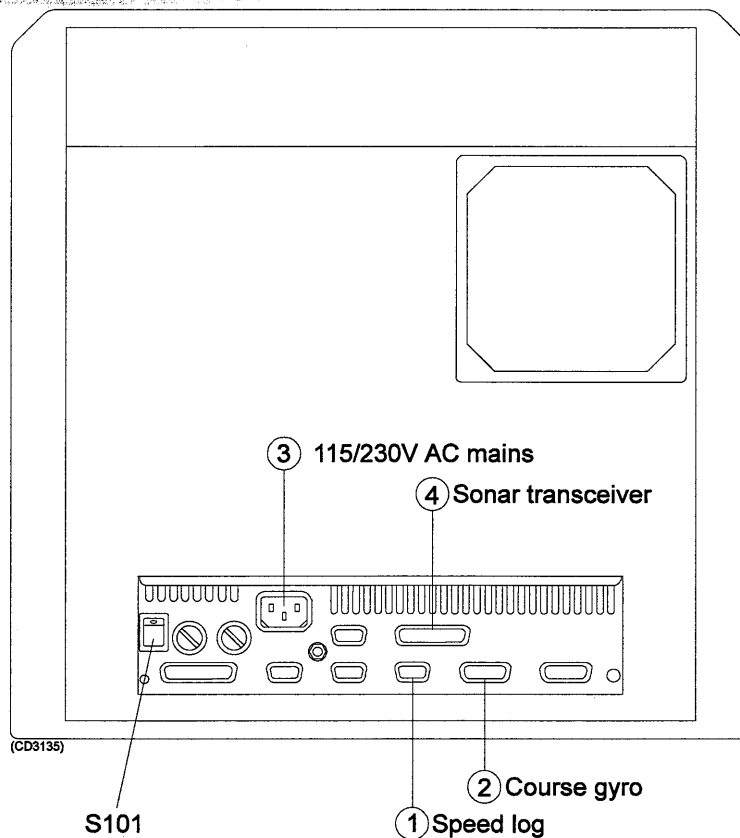
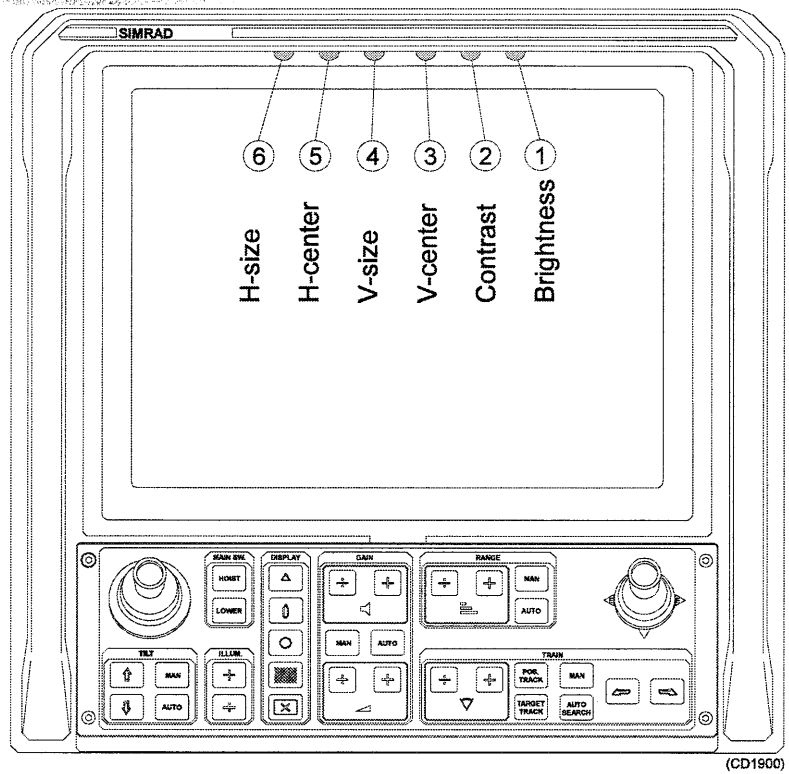

Figure 6 Connections to the rear of the Sonar Control Unit
Figure 7 Adjustments on the display
- ☐ Set the switch S101 at the rear of the Sonar Control Unit to OFF position. For location of the switch, see figure 6.
- ☐ Connect the SONAR TRANSCIVER (4) cable from the transceiver unit to the rear of the drawer unit (refer to figure 6).
- ☐ Connect the 115/230 VAC mains power cable (3) to the rear of the drawer unit.
- ☐ After approximately 10 seconds, the menu will be displayed on the screen. If not, check that the display brightness and contrast are correctly adjusted (refer to figure 7).
- ☐ Check if the picture size and position on the display are correct. If not, adjust the picture with the display adjustments (see figure 7).